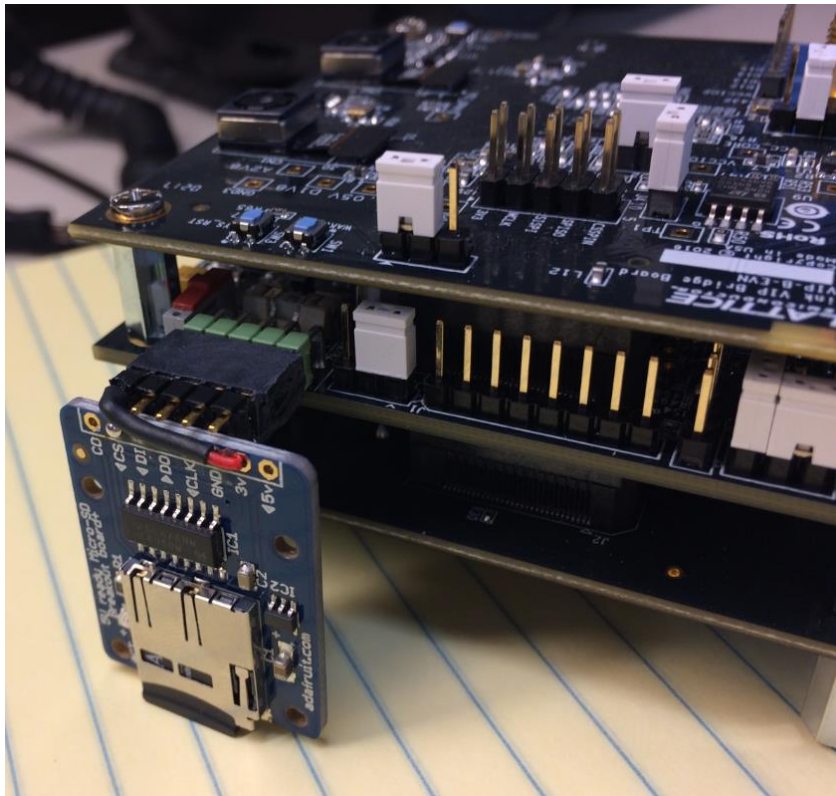

Figure 4.1. Connecting the MicroSD Card
3. Connect the MicroSD Card as shown in Figure 4.1.